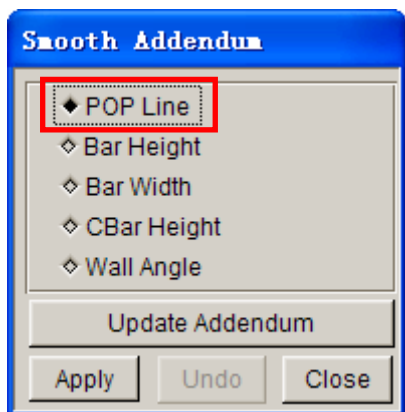

Figure 40 Smooth Addendum dialog box
2. Toggle on the **POP Line** option as illustrated in Figure 40.